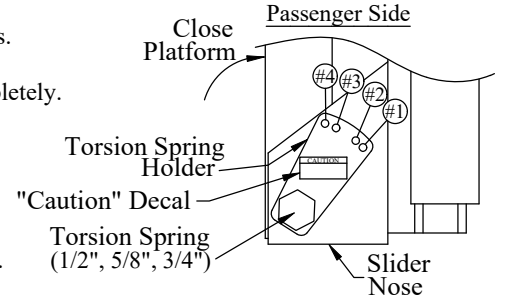
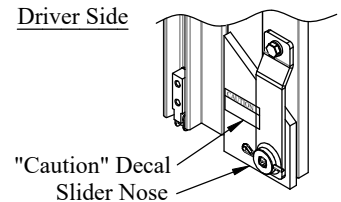

Figure 10: Torsion spring positioning.
Figure 11: Caution decal location.
26. Adhere the two supplied "Caution" decals as shown in (Figure 10) and (Figure 11).